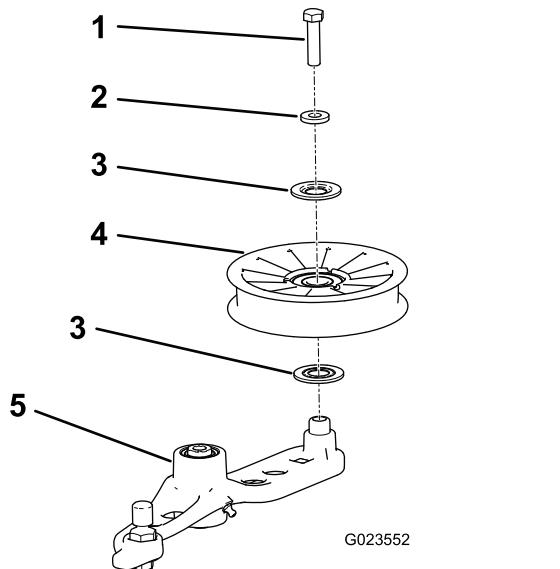

Figure 58
6. Remove the bolt securing the old tensioner pulley to the tensioner arm, and install a new pulley (Figure 58).